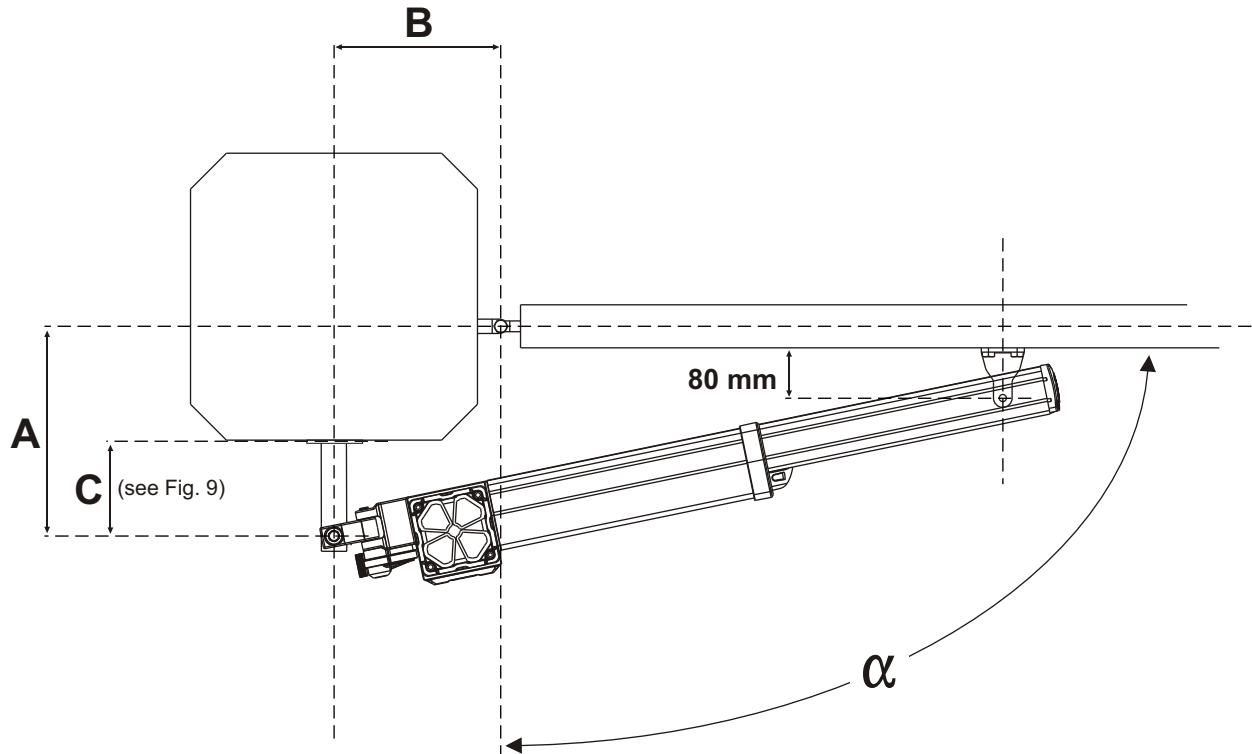

Fig. 7
**2.2.** Weld the back bracket to the plate (Fig 6) following the dimensions shown in Fig 7 and 8. If it is necessary, cut the bracket without going over the minimum limit of 60 mm (Fig 9).